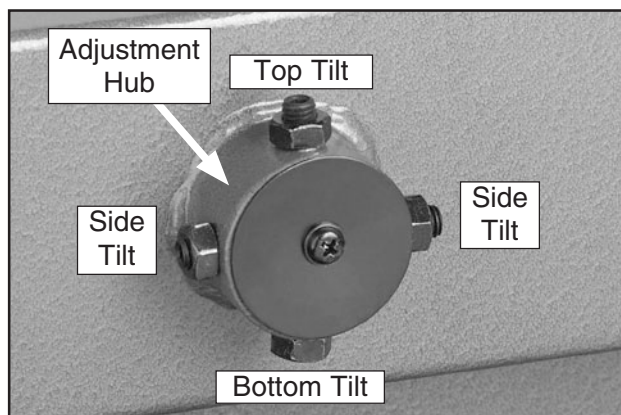

Figure 97. Lower wheel adjustment control.
2. Loosen the jam nuts on the lower wheel adjustment hub (see **Figure 97**).